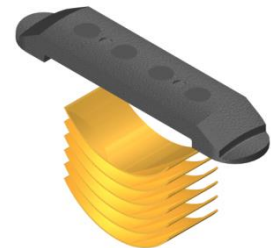

Fig. 6
**NOTE12:** Install six (6 ea) springs per drag block (Fig. 6).